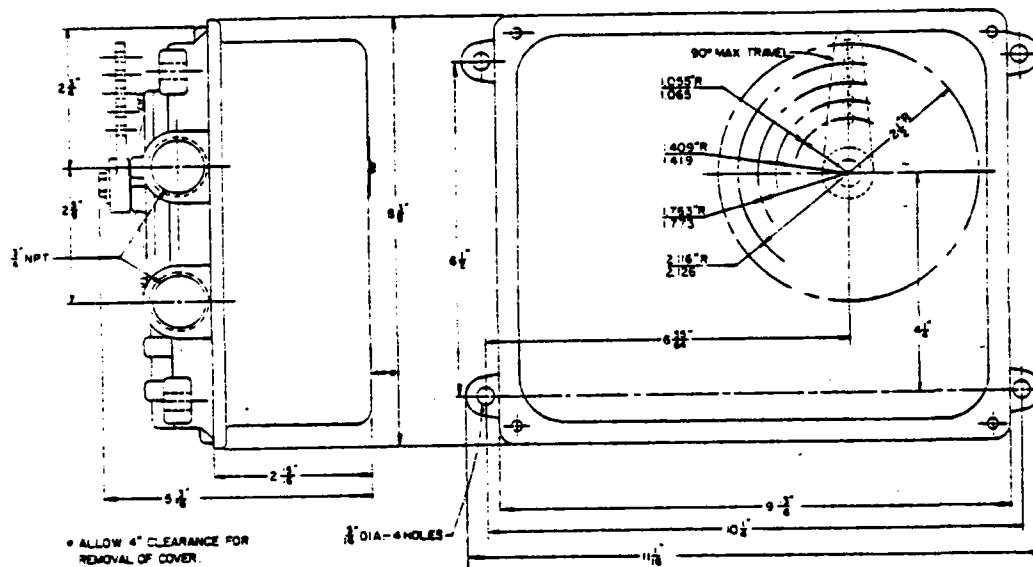

FIGURE 1 - Electric Position Transmitter Mounting Dimensions
2. Mount Transmitter securely on actuating device. Dimensions are given in Figure 1.